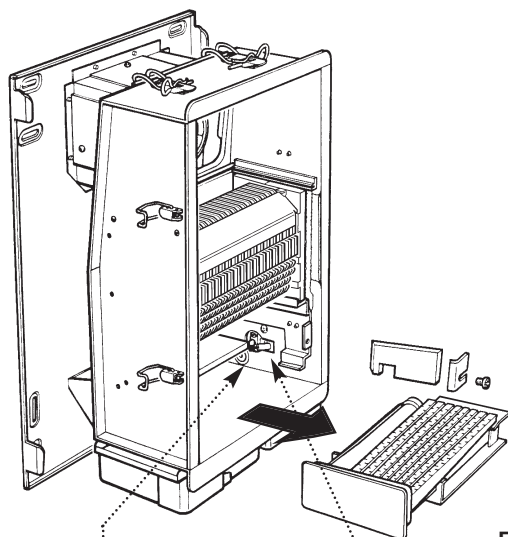

Fig. 113
10.10 Burner (Fig. 113)
1. Remove the right hand side insulation carrier bracket by releasing the screw. Remove the side insulation panel (Fig. 113).